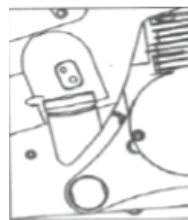

Fig. 4
7. Refueling precautions: I. Only refuel the device in a properly ventilated area. II. Prior to refueling, let the engine cool down naturally. Do not force engine cooling in any way. III. Carefully remove the fuel tank cap, so that any pressure accumulated within the tank is released gradually (ref. Fig. 4).